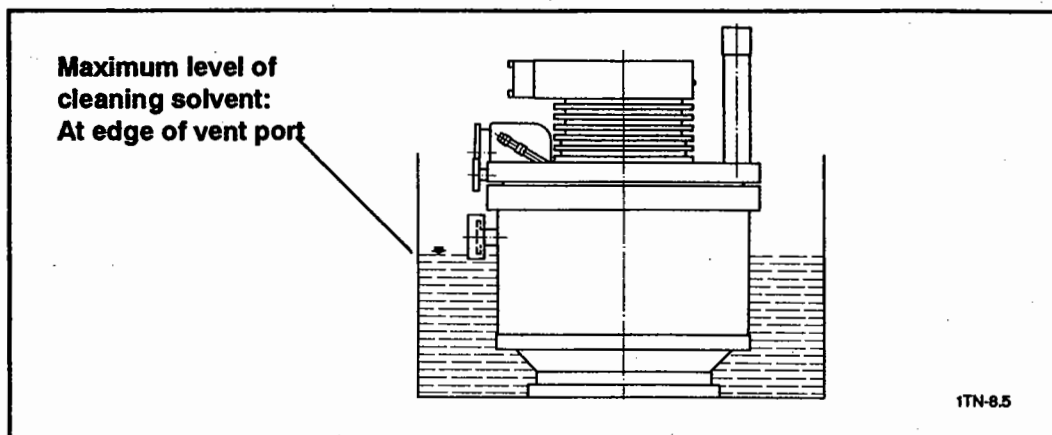

Figure 4-1. TMP1000 Cleaning without Disassembly
CAUTION: In the following step, DO NOT allow the vent port to be submerged in the cleaning solvent; the cleaning solvent level must be below the rim of the vent port as shown in Figure 4-1. This prevents cleaning solvent from entering into the greased ball-bearing assembly.
2. Slowly lower the turbopump upside down into a container filled with cleaning solvent such as acetone (see Figure 4-1). Freon TF works well but isn't recommended because of environmental concerns.